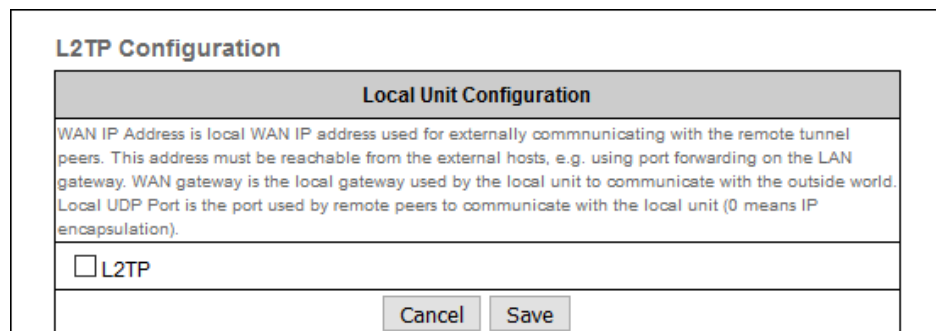

Figure 43. Configurator GUI (L2TP Configuration dialog)
- The **L2TP Configuration** dialog will be shown (Figure 43 \(page 85\)).